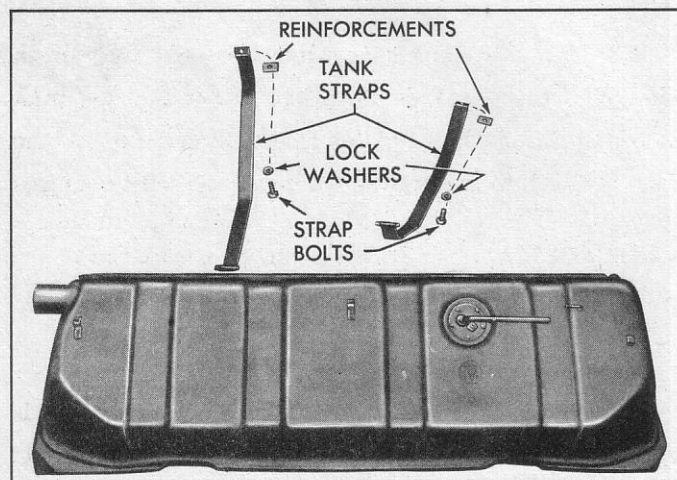

Fig. 9—Fuel Tank and Attachments
1. Replace fuel tank in vehicle (fig. 9).